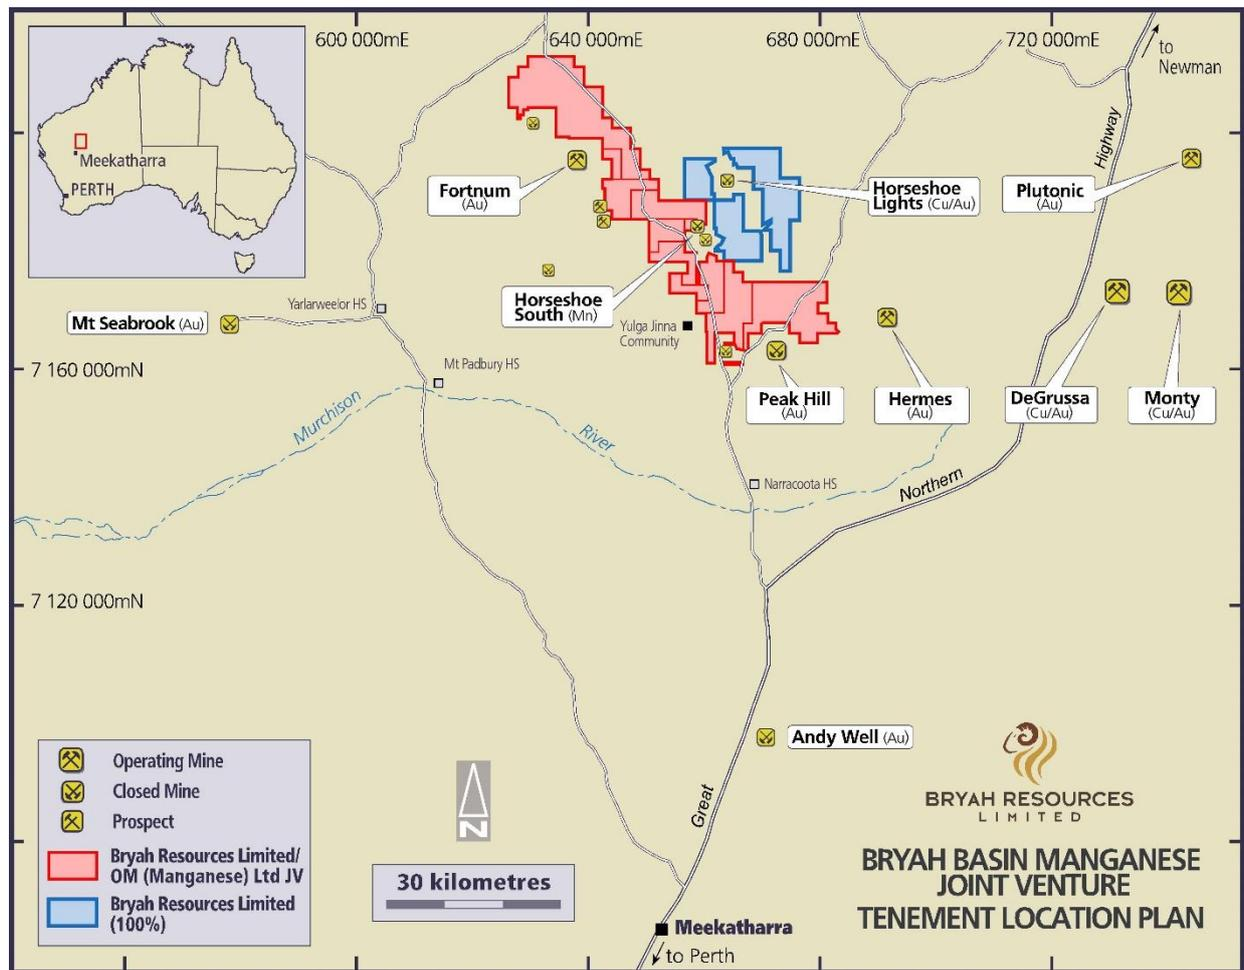

Figure 7 – Tenement Location Plan
*The Company has secured a farm-in and joint venture agreement with OM (Manganese) Limited in respect to its manganese rights only in respect to approximately 660 km2 of its Bryah Basin tenement holdings (see Figure 7).*